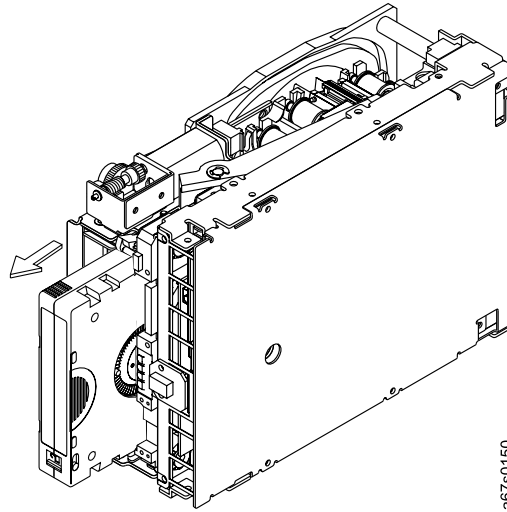

Figure 111. Rotating the loader motor gear until the cartridge ejects
13. Rotate the loader motor gear counterclockwise until you feel resistance and the cartridge rises and ejects (see Figure 111).